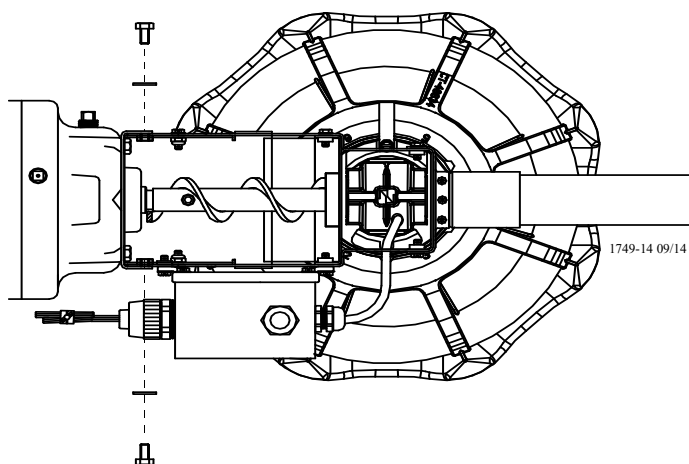

Figure 48. Attaching the Anchor Plate and Gearhead Assembly to the Control Unit Body
7. Attach the Anchor Plate and Gearhead Assembly to the Control Unit Body using the included 1/4" Lock Washers and 1/4-20 x 1/2" Bolts. See **Figure 48**.